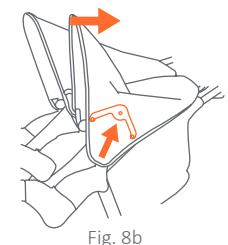

Fig. 8b
• **To fold the canopy:** pull upwards on the tensioners and then pull backwards on the front edge (Fig. 8b).